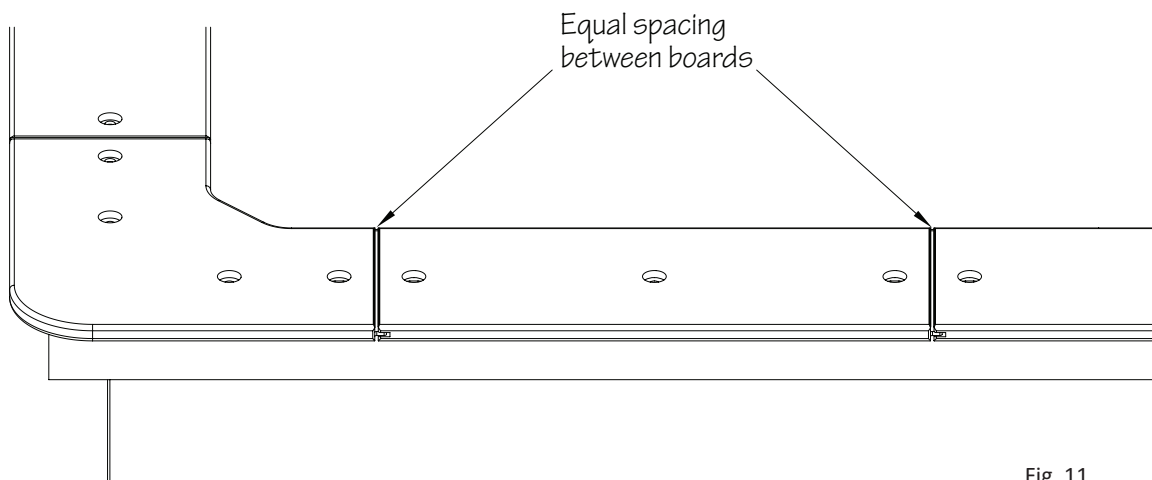

Fig. 11
10. Space the gaps between the boards evenly. Once satisfied with the spacing, sight down the lengths and widths of the pool to verify board alignment (Fig. 11).